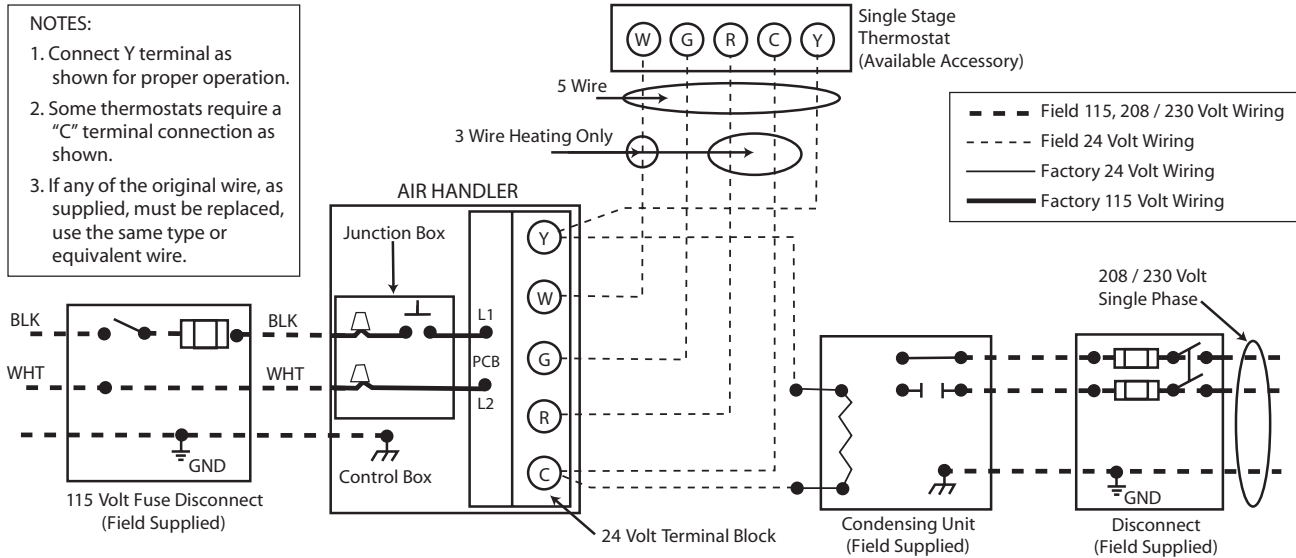

FIGURE 12 Field Wiring Diagram
3. Connect line voltage leads as shown in Figure 12.
Refer to Figure 12 for factory wiring details. For low voltage connections between the unit and the thermostat, use No. 18 AWG colour-coded, insulated (63° F / 35°C minimum) wires.
Refer to Figures 12 through 13 for factory wiring details. The Standard Model A/C thermostat may be wired with or without connecting a common wire between the indoor equipment and the thermostat. However, it is recommended to use a common wire whenever possible. Do not use a power-stealing thermostat. If an evaporating coil is installed above the hot water coil, then a Freeze stat **must** be installed to prevent potential freeze damage to the hot water coil and subsequent waster escape.
Refer to Figure 12 for thermostat wiring diagram and thermostat installation instructions for further details.